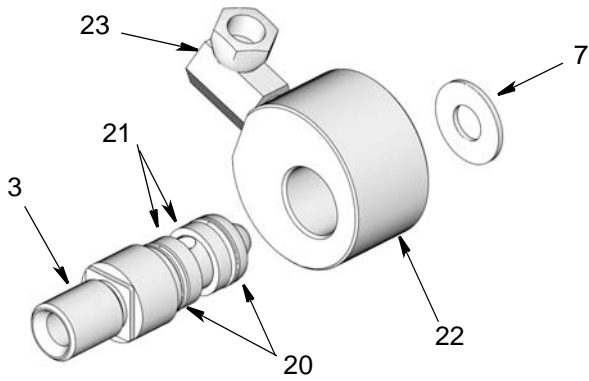
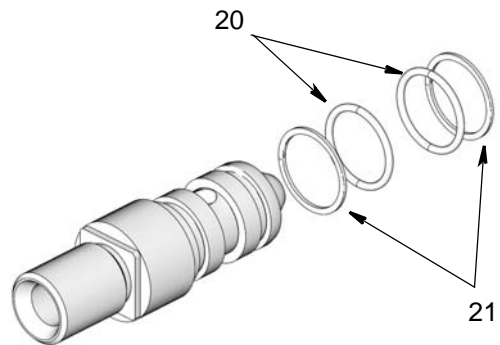
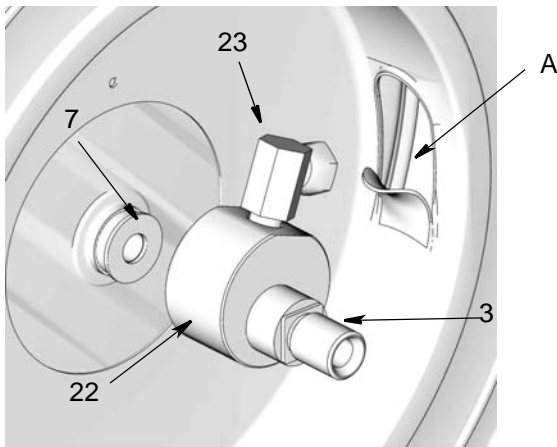

FIG. 6
FIG. 7
FIG. 8
5. Remove large nut (32).
6. Remove two screws (27) holding pedestal (26) to base (24) and three screws (52) and nuts (53) holding hose guide (31) to guide arm (30).
8. Lay hose reel on it's side, spool side down. Remove long bolt (18) and washers (15 / 16).
The swivel assembly is held in place by the tension created when bolt (18) is tightened and securely in place. When this tension is removed by loosening the bolt, the swivel and swivel shaft assembly can be removed (FIG. 6).
2. Carefully remove seals (20 and 21) from swivel (FIG. 6 and FIG. 7).
3. Install new o-ring seals from kit in order shown in FIG. 7, page 4. Also refer to FIG. 6, page 4 for location of these seals on the swivel cylinder.
- Assemble swivel assembly (3, 22) and fitting (23) as shown in FIG. 6, page 4.
- Install washers (15 / 16) over end of bolt (18) and slide them over the threads to the bolt head.
- Slide bolt (18) through hole in center of spool. Do NOT tighten bolt.
- Stand hose reel assembly upright on the base (24).
- Install new swivel assembly and washer (7) in spool. Align fitting (23) with opening (A) in side of spool (FIG. 8). For hose reel to operate correctly, these parts must be aligned correctly.